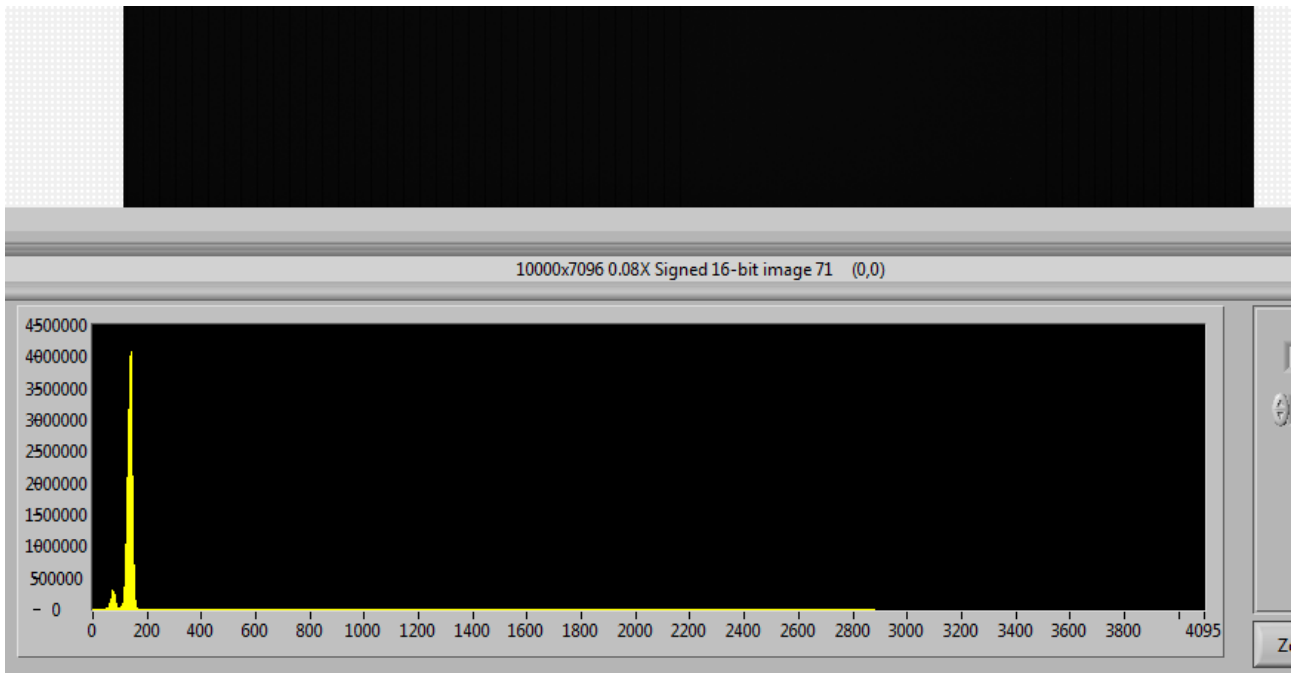

FIGURE 3: LOWERED THE OFFSET OF 1 CHANNEL
9. If you want to change the overall offset, just change the offset of one channel and look at the histogram until you've set it to your liking. Now just change the offset registers of every other channel with the same amount as that channel. See figures 3 & 4.